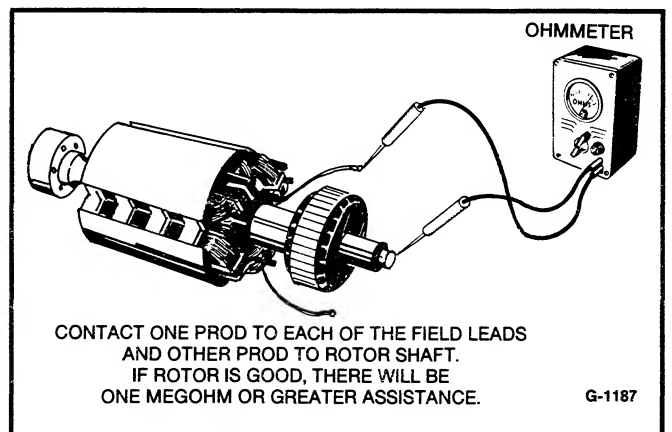

FIGURE 5-17. TESTING GENERATOR ROTOR FOR GROUNDS
2. Measure between either lead and the rotor shaft, Figure 5-17.